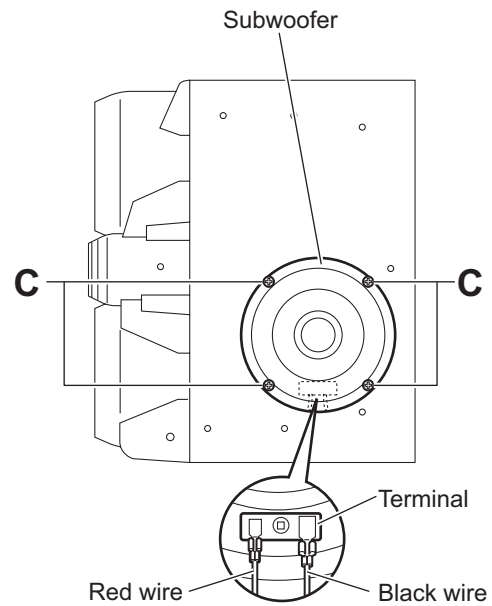

Fig.2
3.4.2 Removing the subwoofer (See Fig.2)